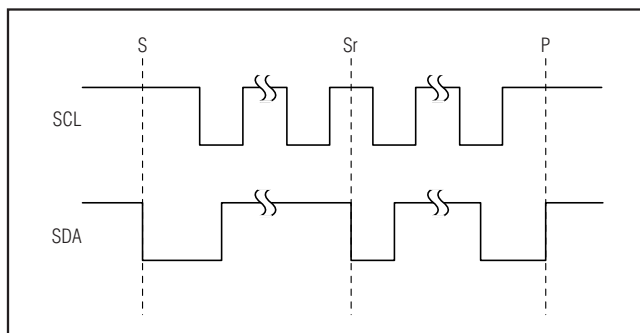

Figure 4. START, STOP, and Repeated START Conditions
A master device initiates communication by issuing a START condition. A START condition is a high to low transition on SDA with SCL high. A STOP condition is a low to high transition on SDA while SCL is high (Figure 4). A START (S) condition from the master signals the beginning of a transmission to the MAX9744. The master terminates transmission, and frees the bus, by issuing a STOP (P) condition. The bus remains active if a Repeated START (Sr) condition is generated instead of a STOP condition.